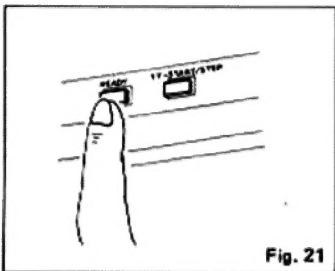

Fig. 21
2. Press the READY button (—) (Fig. 21)
8. Press the "READY" button again to switch the power off (■). (Fig. 21)